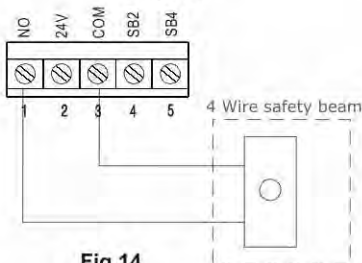

Fig 14
- d. Normally open momentary contact Wall Switch (Fig.14)
- ii. Select Dip Switch Nos.2 (SB) and 3 (AC) to the "ON" position. (Fig.14).